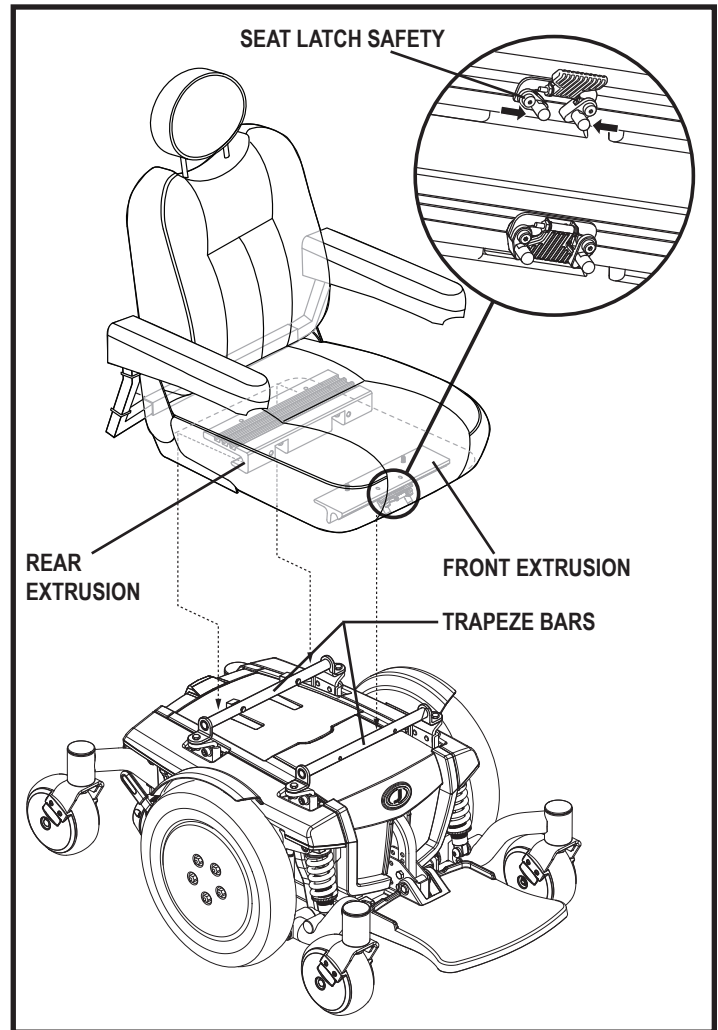

Figure 8. Seat Installation–Universal Mounting System
Most seats are attached to the power base with the Universal Mounting System (UMS). The UMS consists of universal parts that may be attached to the seat, regardless of seat width or seat depth. The two main components are aluminum extrusions mounted to the seat base. These extrusions attach to a pair of trapeze bars that are mounted to the power base. See figure 8.
1. Tilt the seat back and slide the rear extrusion onto the rear trapeze bar. See figure 8.
4. Flip up the seat latch safety. **See figure 8.**